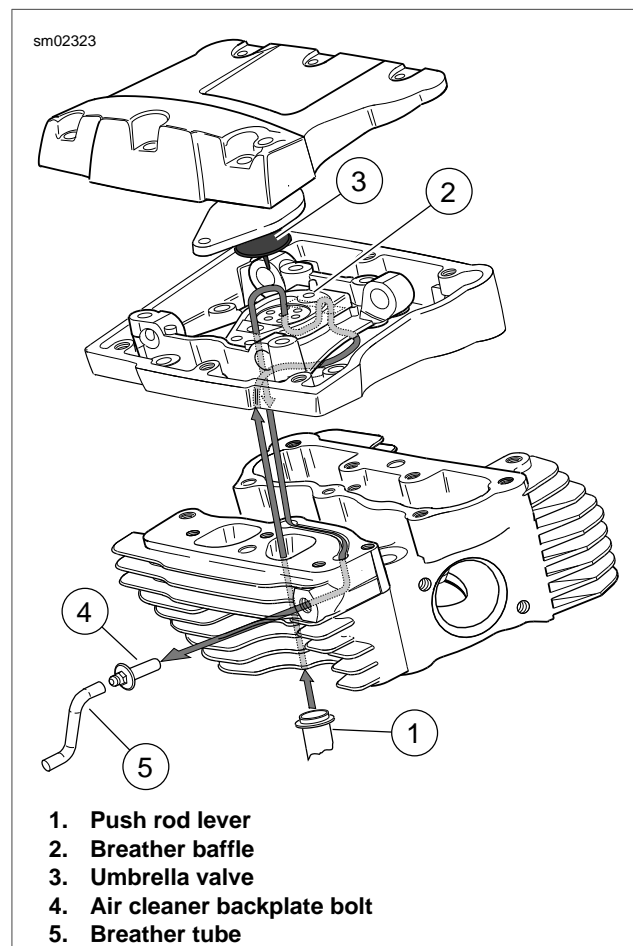

Figure 3-12. Breather Air Flow
See Figure 3-12. As each piston pushes downward on its power and intake stroke, displaced air in the flywheel compartment is vented through the crankshaft roller bearing into the cam compartment and then up the push rod covers (1) into the rocker housing.